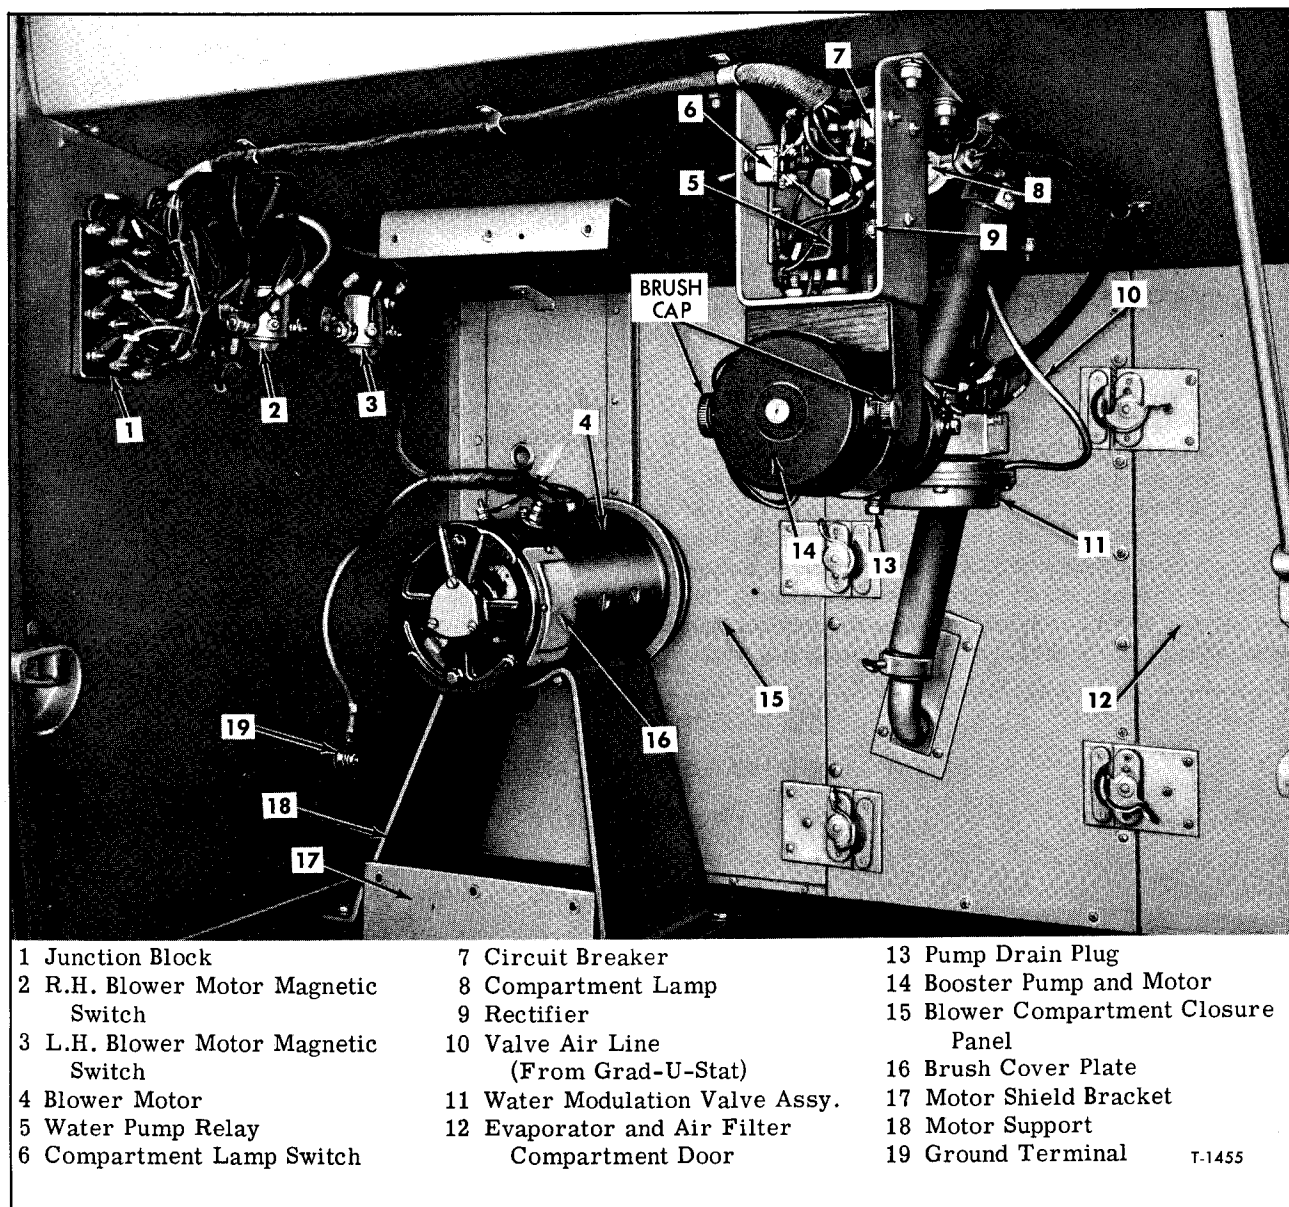

Figure 2—Heating and Air Conditioning Compartment with Blower Motor Shield Removed
3. Disengage latches and remove front closure panel (15, fig. 2). Remove attaching screws and remove rear closure panel retainers. Also remove the screws which hold rear closure panel to compartment wall. The rear closure panel cannot be removed until motor mounting bolts are removed.
12. Install front closure panel (fig. 2) and secure with latches.